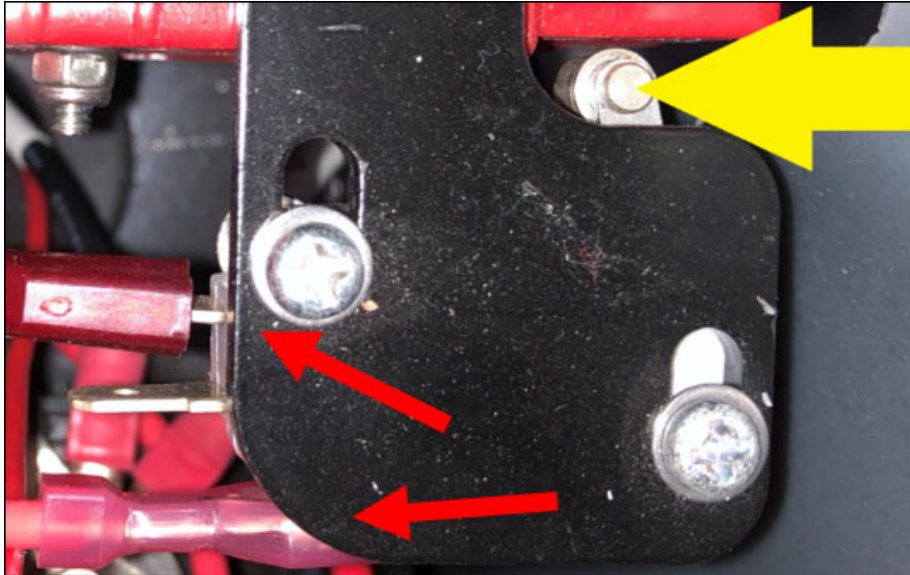
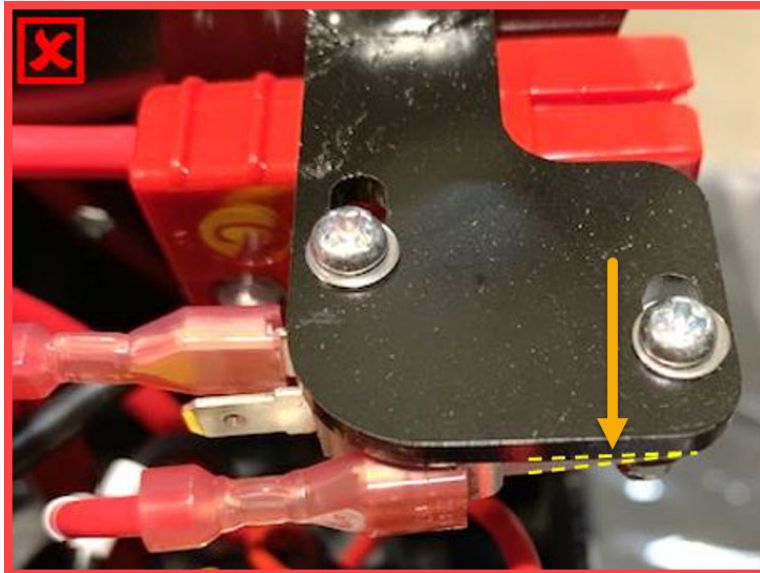
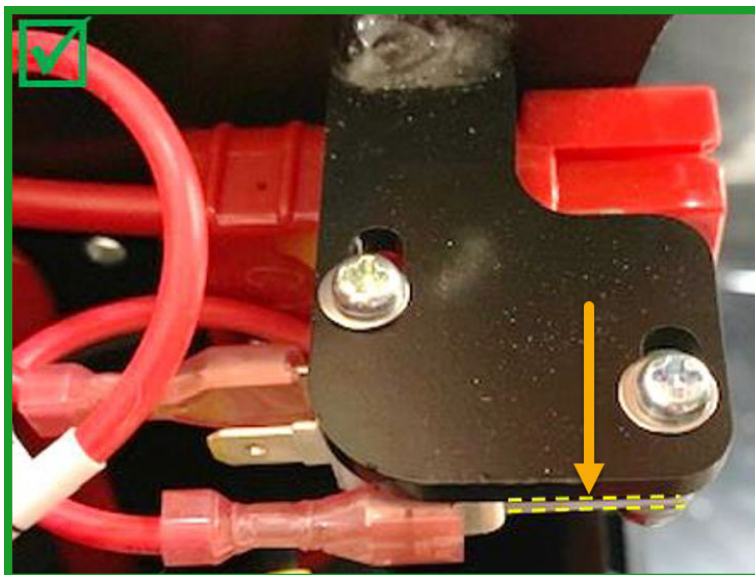

Figure 16: Mount the microswitch and reconnect the wires
Figure 18: Crooked microswitch mounting increases risk of damaging the contact
Figure 19: Correctly mounted microswitch with body parallel to the mounting plate edge
IMPORTANT: To Install the microswitch, tighten the screws so that the microswitch body is parallel with the edge of its mounting plate. The screws must be at or near the end of their slots as shown in Figure 16. See Figure 18 and Figure 19 for additional views.
24. Reconnect both wires as shown in Figure 16.